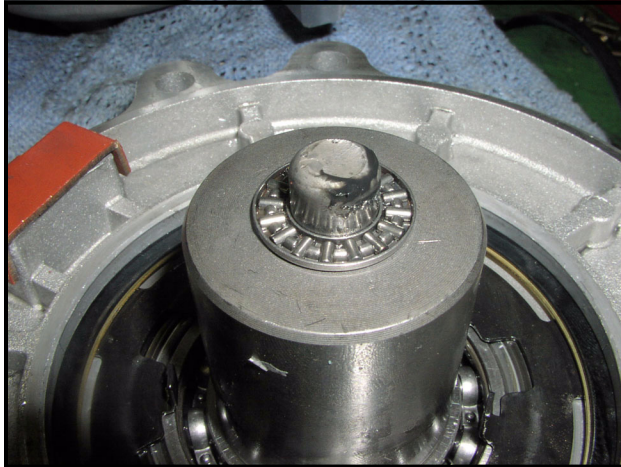

Figure 9-16 Install Roller Thrust Bearing
6. Install the needle sized roller thrust bearing onto the male pin of the hub (**Figure 9-16, Page 9-7**). See following **NOTE**.